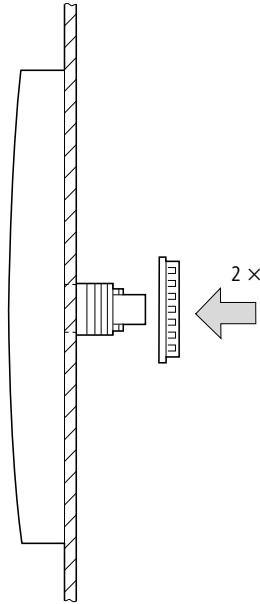

Figure 15: Screw fastening the display/operating unit
- ▶ Tighten the display/operating unit with the M22-MS mounting ring tool (→ figure 15).